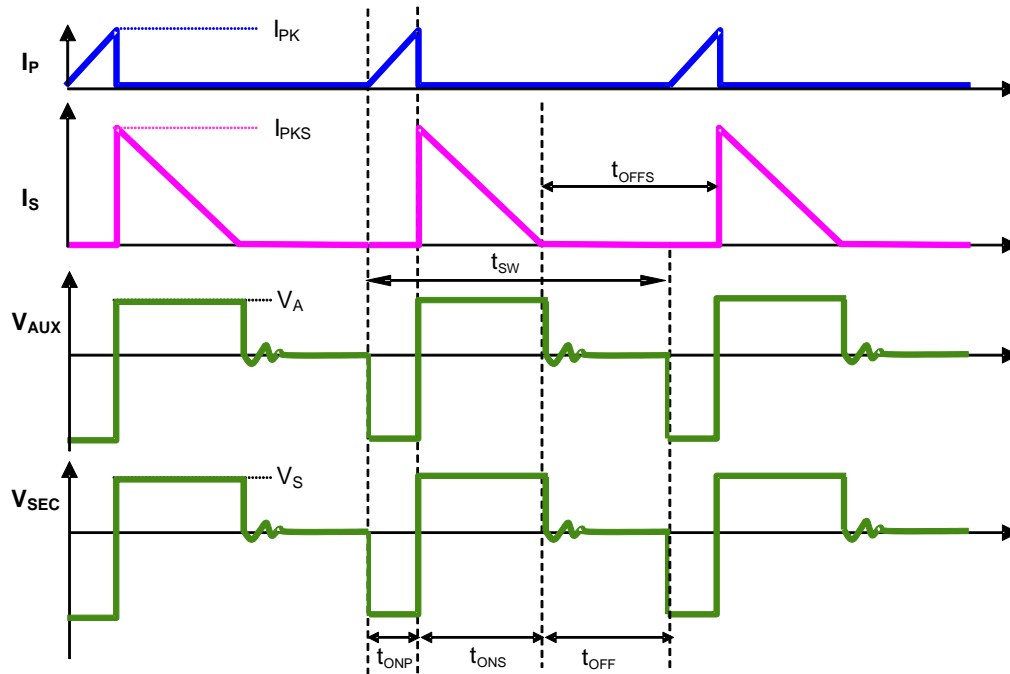

Figure 2. The Operation Waveform of Flyback PSR System
Figure 2 shows the typical waveforms which demonstrate the basic operating principle of AP3783 application. And the parameters are defined as following.
As illustrated in Figure 2, when the current $i_P(t)$ rises up to I_{PK} , the switch Q1 turns off. The constant peak current is given by:
The AP3783 can work in constant-current (CC) mode. Figure 2 shows the secondary current waveforms.